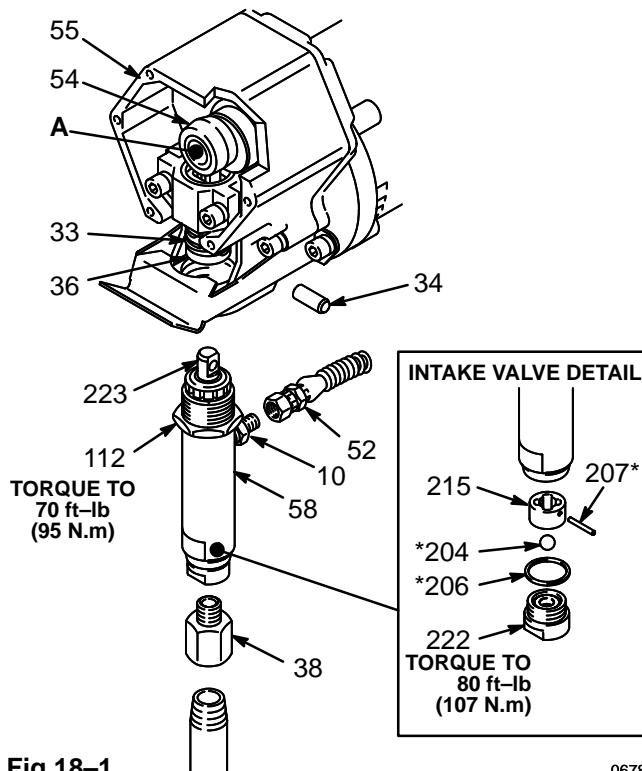

Fig 18–1
Removing the Pump. See Fig 18–1.
Be sure the retaining spring (33) is firmly and completely in the groove of the connecting rod to prevent the pin (34) from working loose due to vibration. See Fig 18–1.
1. Remove and disassemble the intake valve (222). If no further service is needed, reassemble the valve, using a new gasket (206*). Torque the intake valve to 80 ft-lb (107 N.m). See Fig 18–1.
2. Remove the packing nut (221) and plug (201).
3. Tap the piston rod (223) down with a plastic mallet. Pull the rod out the bottom of the cylinder (216).
4. Remove the packings and glands from the throat of the cylinder (216).
5. Clamp the flats of the piston rod (223) in a vise. Unscrew the retaining nut (214). Unscrew the piston valve (224) from the rod. Remove all parts from the piston.
Reinstalling the Pump. See Fig 18–1.